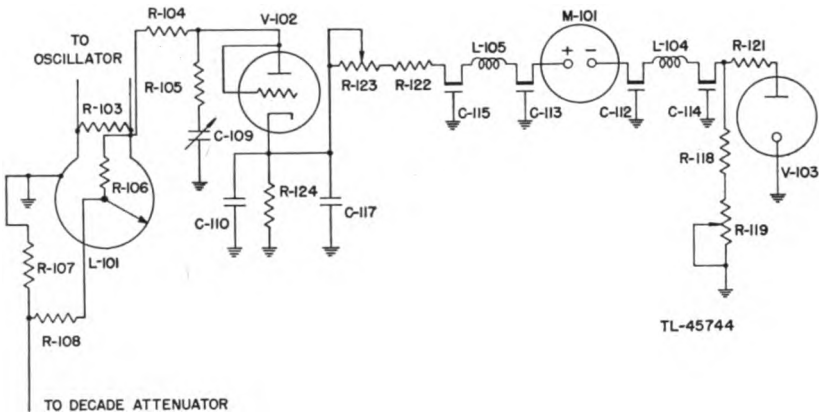

Figure 13. Vacuum tube voltmeter circuit.
(1) Figure 13 is a functional diagram of the complete vacuum tube voltmeter circuit. A type 955 vacuum tube having the plate and grid connected together is used as a diode-rectifier. The tubes used have been properly aged and selected for uniformity of "contact" or "drift" current. This current is caused by the random flow of electrons across a vacuum tube which has a heated cathode and is commonly known as the Edison effect. This drift current is used as a basis for zero setting the voltmeter. The d-c circuit for V-102 (fig. 13) consists of the variable inductor L-101, resistor R-104, and resistor R-124 shunted by the meter circuit. Capacitors C-110 and C-117 provide r-f bypassing. Drift current in V-102 establishes a voltage drop across resistor R-124. A similar voltage drop is established by the voltage-divider network resistors, R-118, R-121, and rheostat R-119 connected across voltage
regulator tube V-103. Meter M-101 and its associated filter network is connected in series with resistor R-122 and rheostat R-123 between these two points of similar potential. If rheostat R-119 (zero adjustment control) is adjusted so that the potential across the combination R-118 and R-119 is exactly equal to the potential across R-124, the meter will indicate zero. This establishes the initial operating point of the vacuum tube voltmeter. The oscillator output is impressed across variable inductor L-101 (fig. 13). The resistance-capacitance network composed of resistors R-104 and R-105 and trimmer-capacitor C-109 forms a voltage-divider network which may be adjusted to compensate for undesirable frequency effects which influence the voltmeter indication at higher frequencies. V-102 is connected to the junction of R-104 and R-105, and the direct current flowing through R-124 causes a voltage drop which is measured by the meter. The indication on a meter for a given voltage is proportional to the resistance in series with the meter and in calibrating the signal generator output voltage, R-123 is adjusted so that an indication of 1.0 on the meter corresponds to 0.1 volt rms as measured by a high-impedance vacuum tube voltmeter connected to the terminal box of the output cable. This calibration adjustment is made at 5 mc with the attenuator controls set to maximum output.